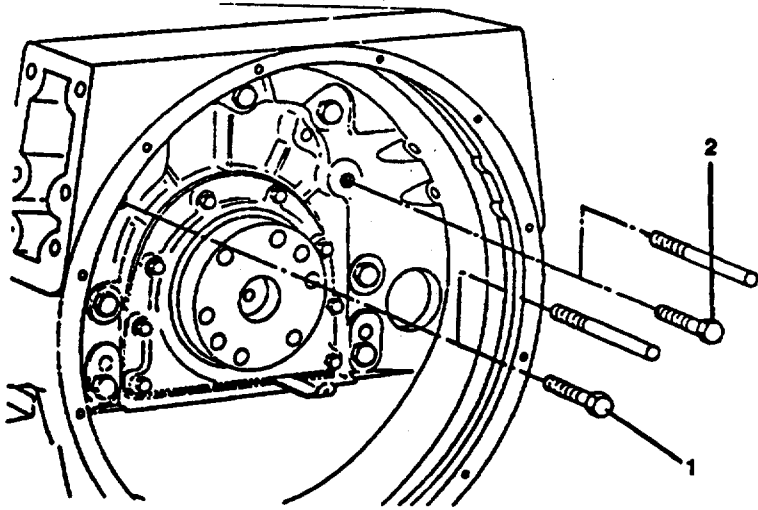

FIGURE 3-86. Flywheel Housing Guide Studs.
- (1) Install two 5/8-18 x 4 inch guide studs (FIGURE 3-86) in the cylinder block to help support and align the housing during installation (FIGURE 3-87) .
- (2) Install the flywheel housing over the guide studs.